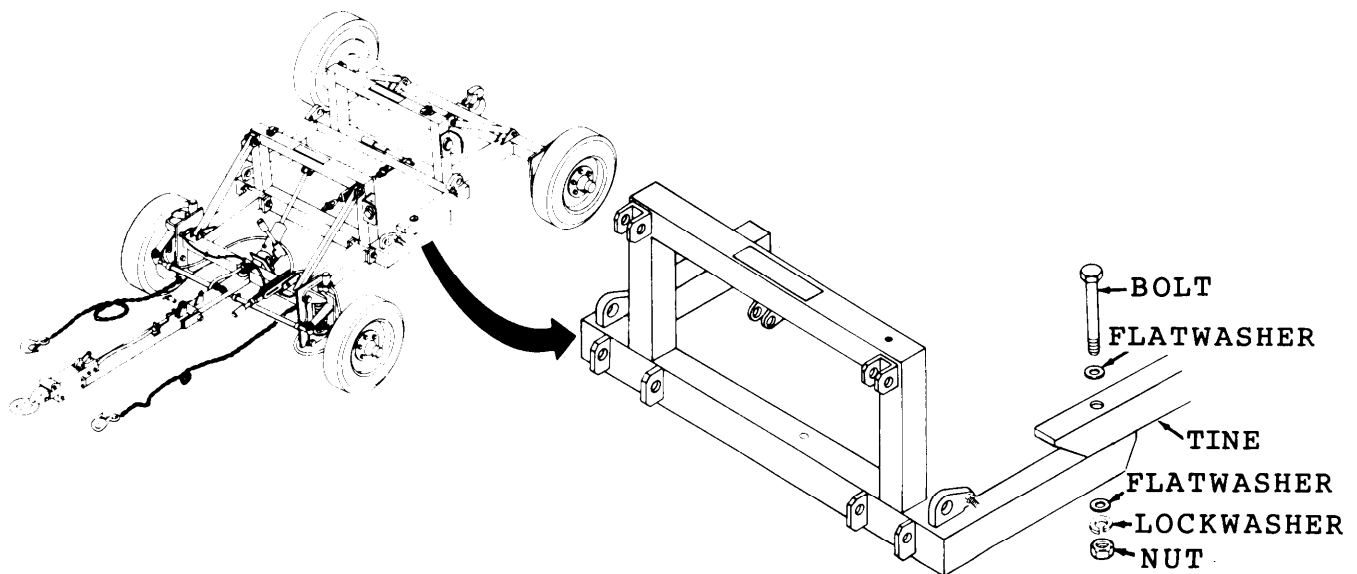

Figure 2-2. Front and Rear Assemblies Connection.
- a. Connect the front and rear transporter assemblies together by first aligning holes in tines on rear transporter over holes in tines in front transporter. Insert bolt and flat washer through tines and then install flat washer, lockwasher, and nut as shown in Figure 2-2